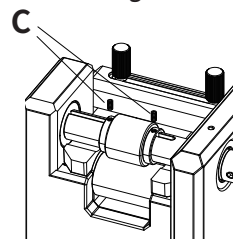

Fig.11
- 6.As shown in Fig. 11, use O to tighten C Positioning Collar Set Screw into D Positioning Collar.